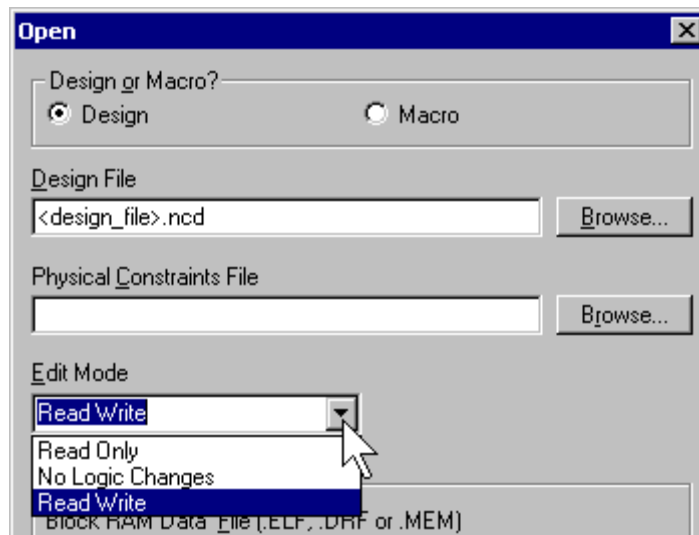

Figure 6: Enable User Editing in FPGA Editor
- Select **File → Open**. Select the *.ncd file for the completed design. Set the **Edit Mode** to “Read Write” mode as shown in Figure 6.